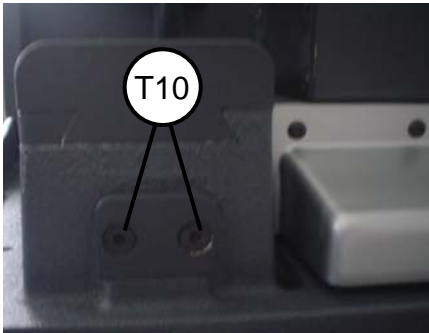

Fig.29
- Release the screws (T10) of the decorative case (Fig.29).